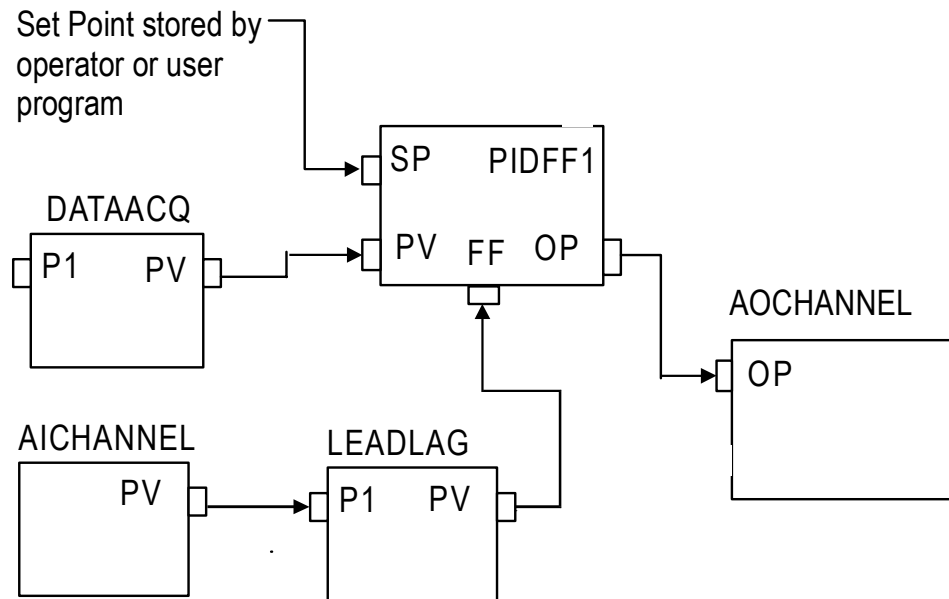

Figure 22 Functional block diagram of typical PID feedforward operation.
This scenario is based on the functional block diagram of a typical feedforward loop shown in Figure 22 and it assumes the following:
- PIDFF pulls PV from Data Acquisition (DATAACQ) function block as shown in Figure 22.
- PIDFF pulls FF from the LEADLAG function block as shown in Figure 22.